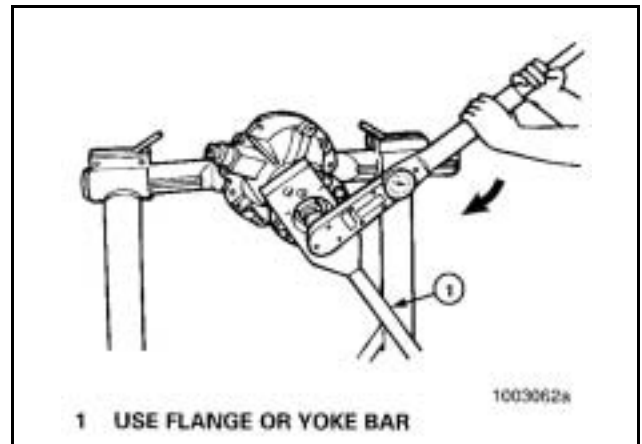

Figure 84
- Install the drive pinion nut (and washer if required) on the input pinion shaft and against the yoke collar. Tighten the nut against yoke collar to torque specifications. **Figure 84.** Refer to **Table J.**